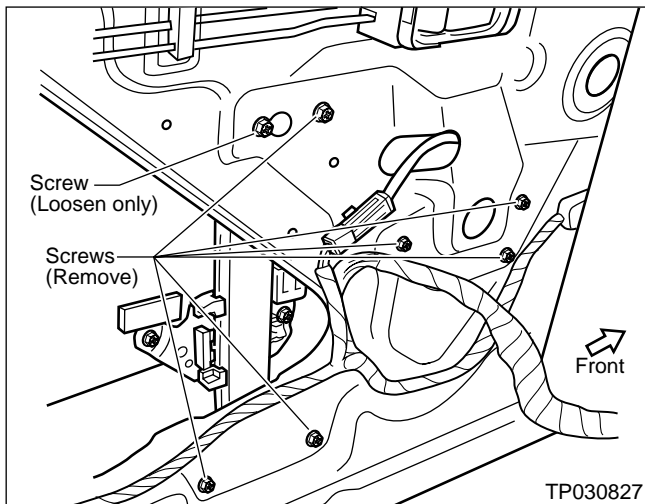

Figure 36
17. Loosen one screw and remove six screws that secure the Window Regulator Assembly (see Figure 36).